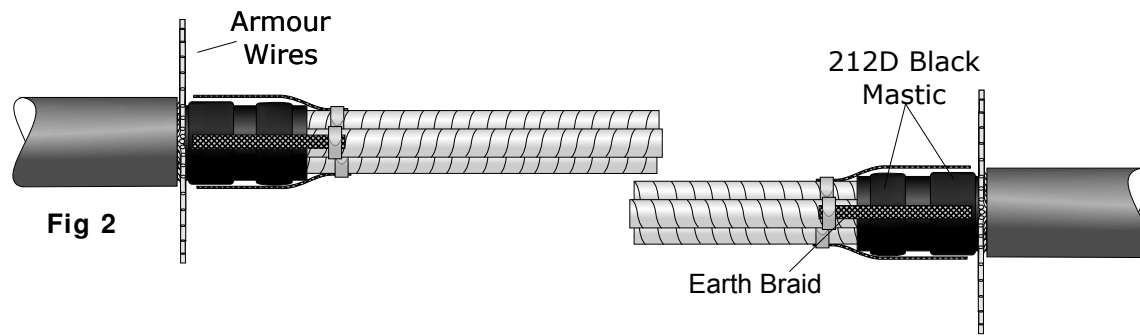

Fig 2
3. Lift the wire armours and apply a two bands of the 212D black mastic tape as shown in Fig 2.